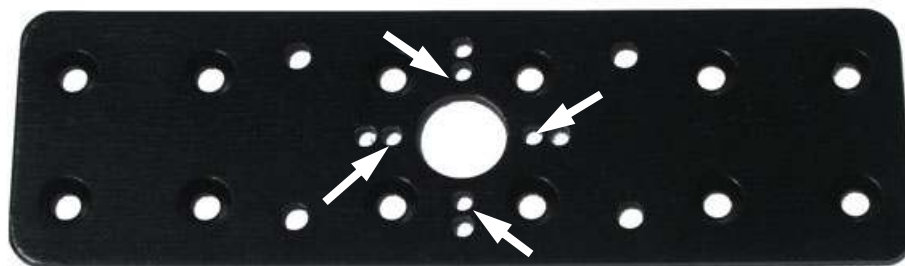

Figure 16
- If you are installing the dual axis to the RX/MX28 Pro-Turntable, use the screws holes of the inner bolt circle and M2 10mm screws (Figure 16).